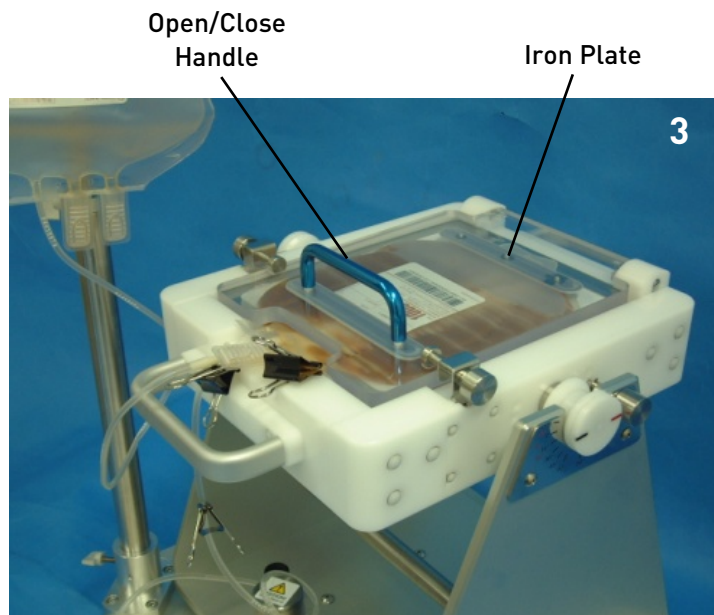

Figure 7 Opening/closing the Primary Magnet Lid
- CAUTION: Do not turn** the Primary Magnet when the lid is open. The pin head may hit the Rotation Unit and damage the lid. Make sure the lid is closed (Figure 7, page 5).